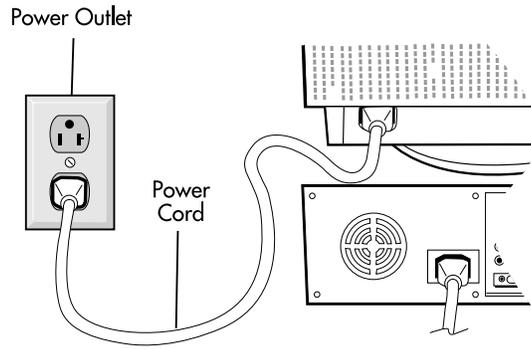

Figure C.1
**NOTE:** To obtain the Macintosh cable adapter, call NEC-Mitsubishi Electronics Display of America, Inc. at (800) 632-4662.
5. Connect one end of the power cord to the monitor and the other end to the power outlet (**Figure C.1**).